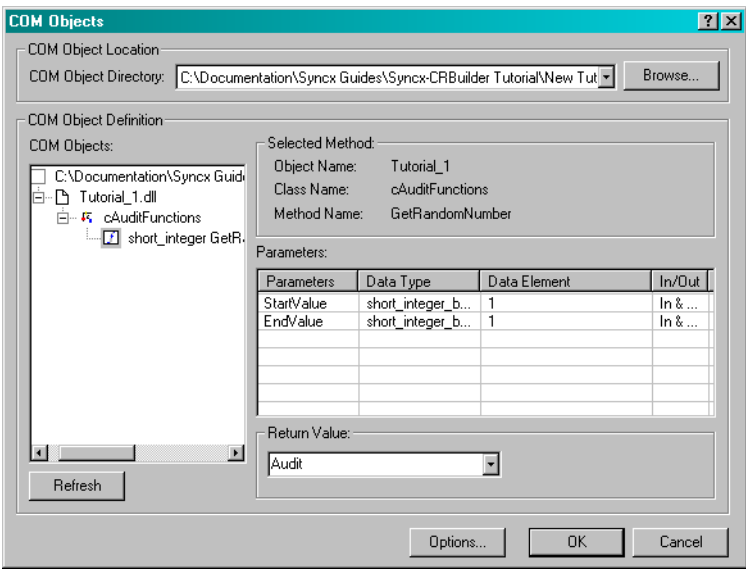

Figure 28-19. The COM Object Browser dialog with a selected Method.
- ❶ Right-mouse-click on the database delete action you just inserted, and choose **Insert**, then **Object Call to**, then **COM Object**. The **COM Objects** dialog appears.
- ❷ Click **Browse** and locate the directory with the Tutorial.dll COM Object. The local default installation should be c:\program files\CRbuilder\Tutorial\COM object. Please check with your system administrator if can't locate it.
- ❸ Click **Refresh**. The COM Object will appear in the COM Objects window.
- 4 In the left pane, double-click the Tutorial_1.dll COM Object, then click on its Audit Functions class, and finally, double-click on GetRandomNumber method to display its parameters in the Parameter's column. See Figure 28-19, below.
- ❶ Right-mouse-click on the COM object you just inserted, and choose **Insert**, then **Object Call to**, then **COM Object**. The **COM Objects** dialog appears.
- ❷ If needed, click **Browse** and locate the directory with the Tutorial_1.dll COM Object. Please check with your system administrator if you aren't sure where the COM Object is located.
- ❸ In the left pane, double-click the Tutorial_1.dll COM Object, then click on its Audit Functions class, and finally, double-click on GetRandomNumber method to display its parameters in the Parameter's column. See Figure 28-19, below.